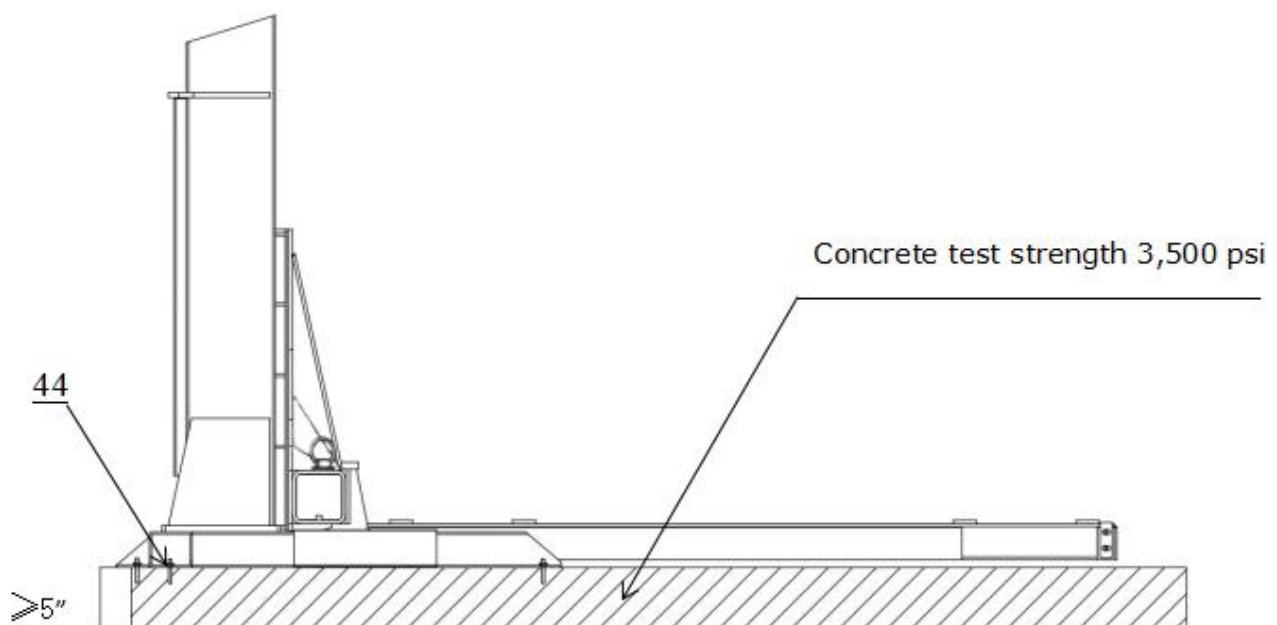

Fig. 5
C. SPECIFICATIONS OF CONCRETE (See Fig. 5)